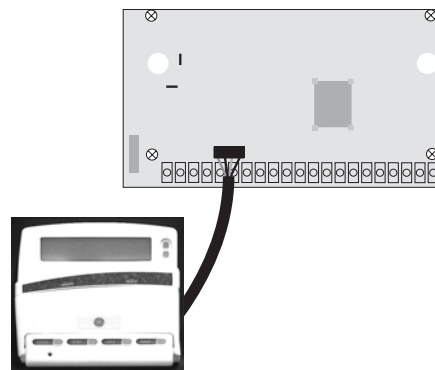

Figure 7. Connecting a Programming Touchpad—Concord Express Shown, Concord Similar
1. With the panel powered up, connect the cable to the Programming Touchpad Header (Figure 7).